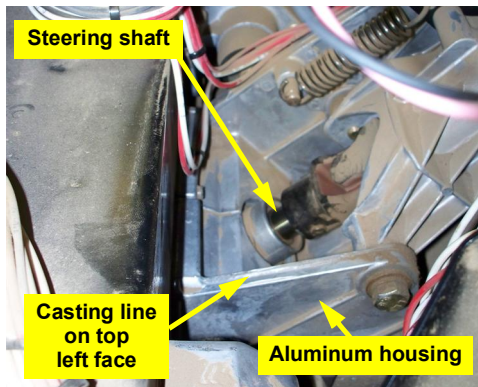

Figure 1c: Aluminum housing and steering shaft
- c. Locate the steering shaft and the cast aluminum housing. Using a file, remove the casting line on the top left face of the aluminum housing. Clean the area and be sure the top face is flat (Figure 1c).